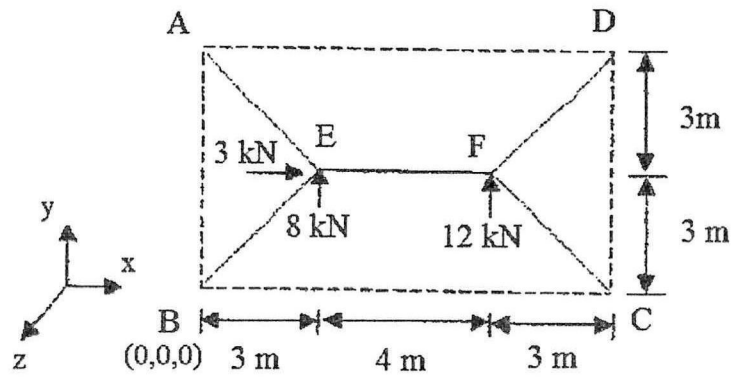

Figure 4(c)
- (c) A space frame in **Figure 4(c)** are connected at A, B, C and D in a horizontal plane through ball and socket joint. The member of EF is at height of 5m above base and load at joint E and F act in a horizontal plane. Calculate internal forces in all members.